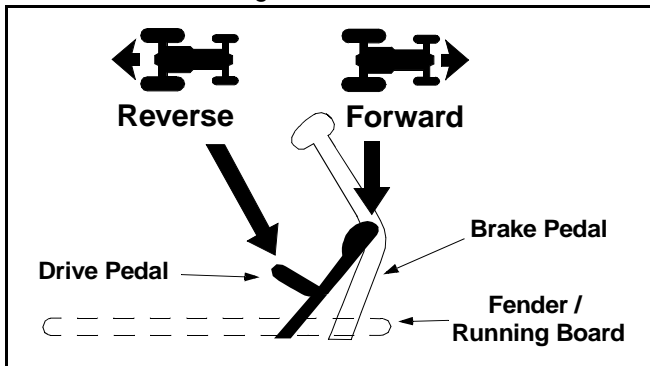

Figure 4
- To travel forward, slowly depress the upper portion of the drive pedal forward until the desired speed is achieved. See Figure 4.
- To travel in reverse, check that the area behind is clear then slowly depress the lower portion of the drive pedal with the ball of your foot (**not** your heel) until the desired speed is achieved. See Figure 4.